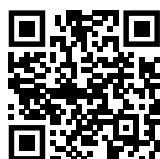

Fig. 168
- ▶ Open Liebherr SmartMonitoring Dashboard. (see Fig. 168)